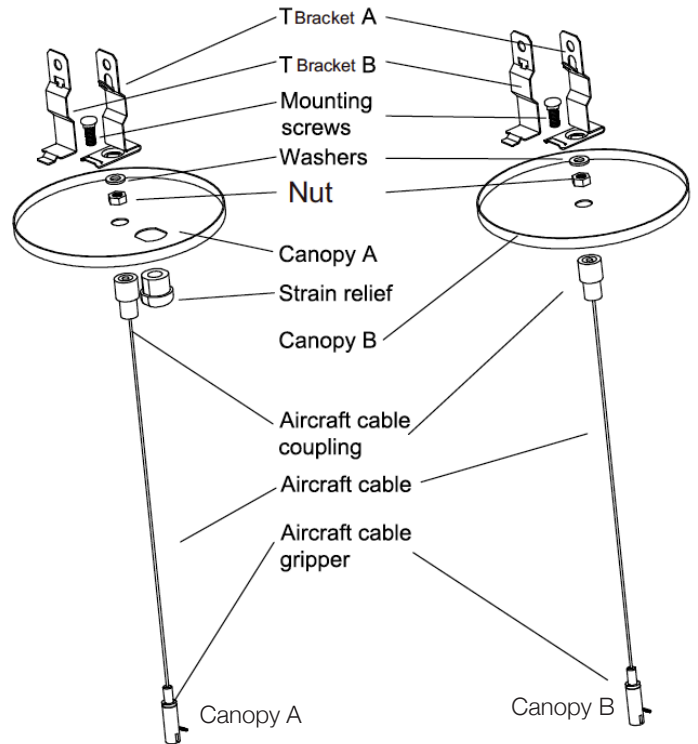

Fig. 5.7
7. Follow the instructions given in the suspended mount (for installation to ceiling) to complete installation. Fig. 5.7 gives you an overview of the installation.